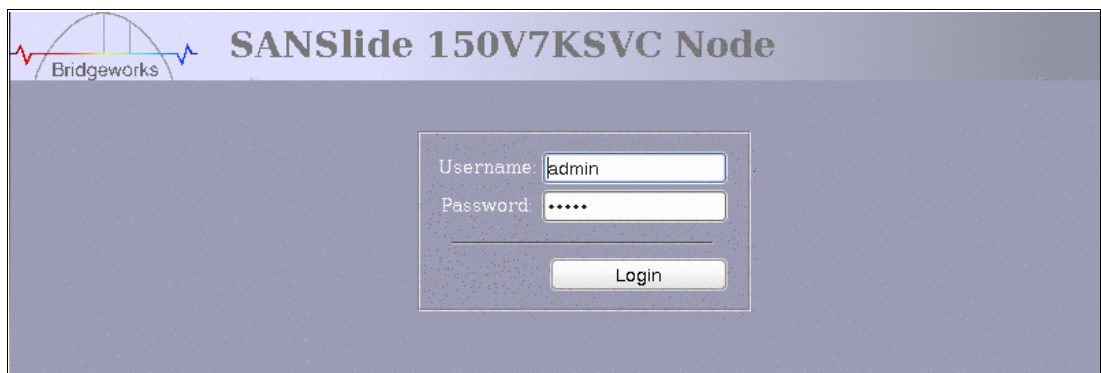

Figure 2-4 SANSlide 150 node login
2. Log in using the default Username of admin and the default Password of admin (Figure 2-4).